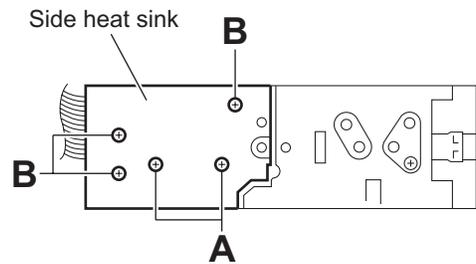

Fig.2
3.1.2 Removing the side heat sink (See Fig.2)